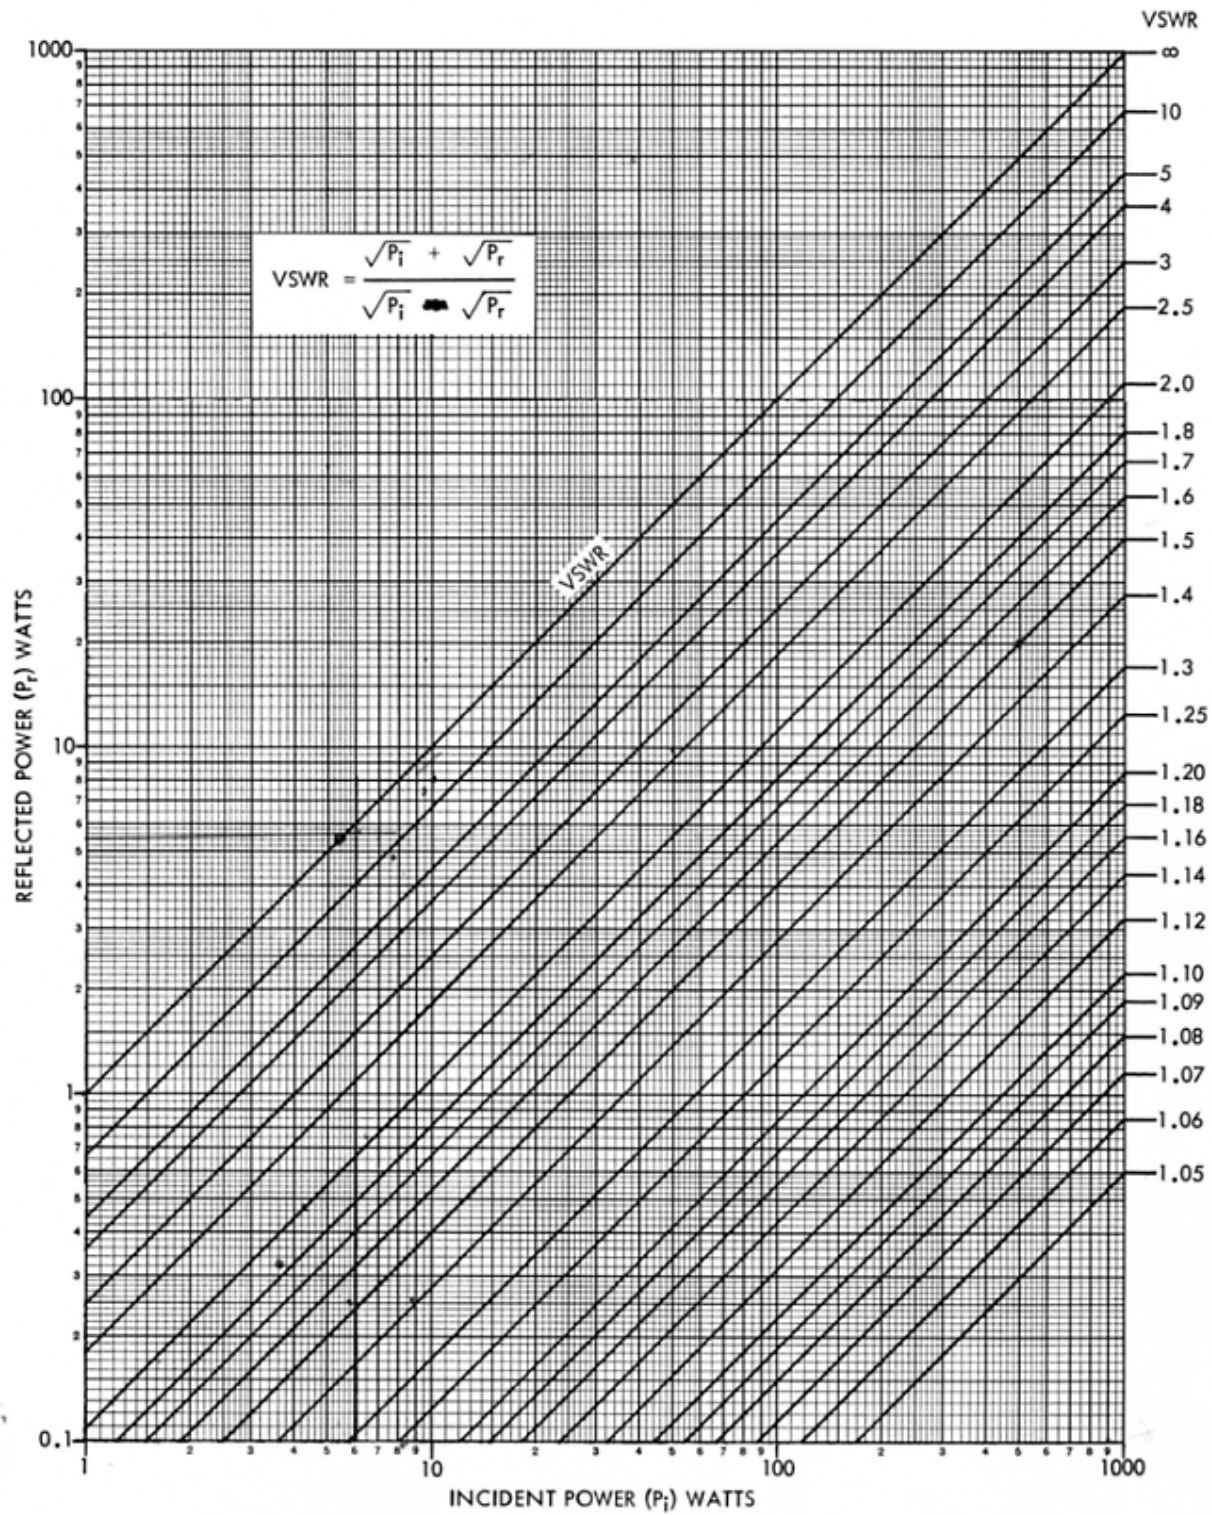

Figure 2-1. VSWR Chart
- d. Enter the VSWR chart, Figure 2-1, with the recorded readings and read the VSWR at the intersection of these readings.
Figure 2-1 is based on the equation: